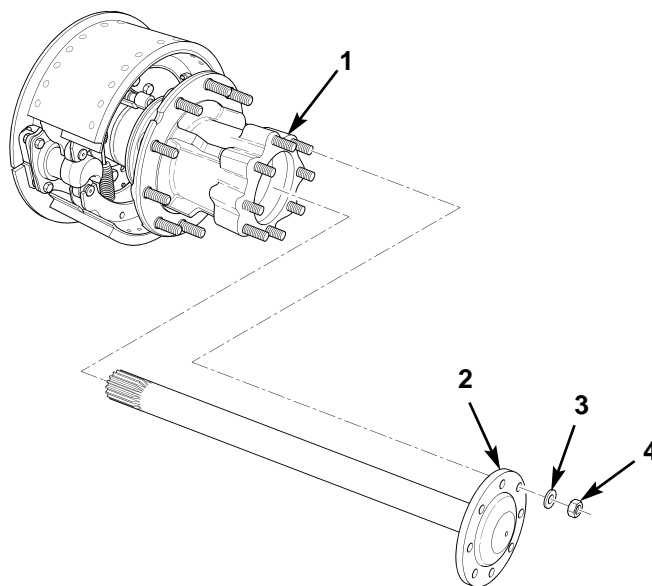

Figure 1. Removing Axle Shaft.
1. Position clean, dry drain pan under rear-rear hub (figure 1, item 1) and remove eight locknuts (figure 1, item 4), washers (figure 1, item 3), and axle shaft (figure 1, item 2) from rear hub (figure 1, item 1). Discard locknuts (figure 1, item 4).